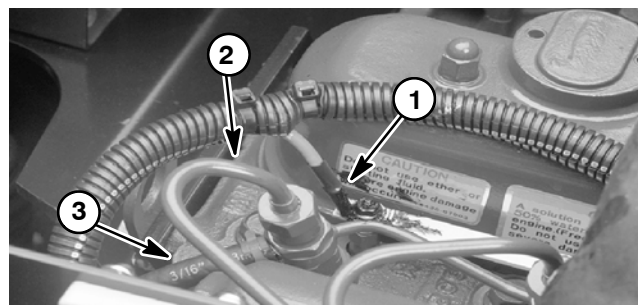

Figure 9
B. Glow plug bus (Fig. 9).
3. Connect hoist or lift to the front and rear engine lift tabs (Fig. 9 and 10).
- C. Glow plug bus (Fig. 9) and fuel stop solenoid.